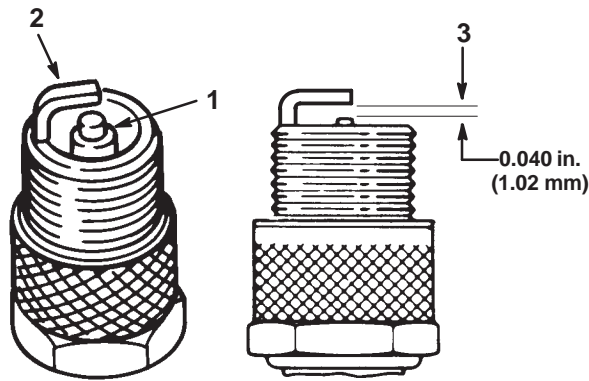

Figure 26
- Look at the center of the spark plug(s) (Fig. 26). If you see light brown or gray on the insulator, the engine is operating properly. A black coating on the insulator usually means the air cleaner is dirty.
2. Check the gap between the center and side electrodes (Fig. 26). Bend the side electrode (Fig. 26) if the gap is not correct.